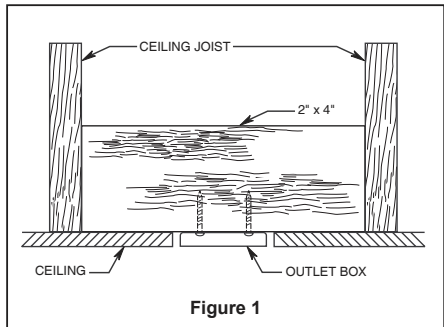
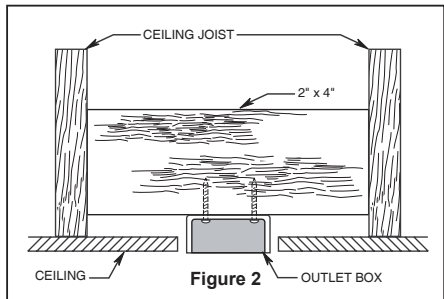
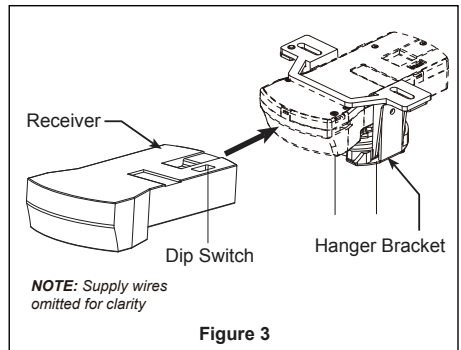

Figure 1
Figure 2
Figure 3
Your new ceiling fan will require a grounded electrical supply line of 120 volts AC, 60 HZ, 15 Amp Circuit. Electrical code requires use of a fan-rated outlet box to support the extra weight and motion associated with a ceiling fan. A fan-rated box will be labeled as such and typically supports up to a 70lbs ceiling fan. Fan-Rated Outlet Boxes vary in ratings and design. Ensure the ratings of your ceiling fan outlet box meet the requirements for the ceiling fan being installed. Figure 1, Figure 2 and Figure 3 depicts different structural configurations that may be used for mounting the outlet box.
Low-profile use (Figure 1)
Deep-profile use (Figure 2)
Brace use (Figure 3)
- 3. Remove the hairpin clip and clevis pin from the bottom of the downrod. Retain the pin and clip for reinstallation in Step 5. (Figure 3)
1. Securely attach the hanger bracket to the outlet box (not included) using the outlet box screws and washers supplied with the outlet box. (Figure 3)
2. Slide the receiver into the hanger bracket before wiring as shown in figure 3.
- 3. Remove the battery cover from remote control by screwdriver and retain the screw for later. (Figure 3)